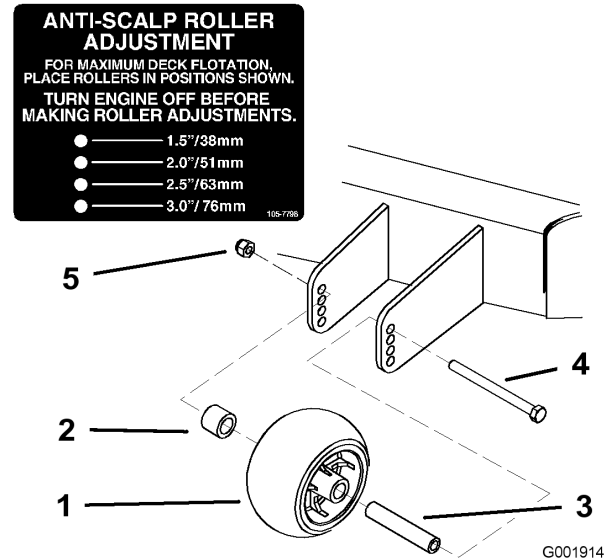
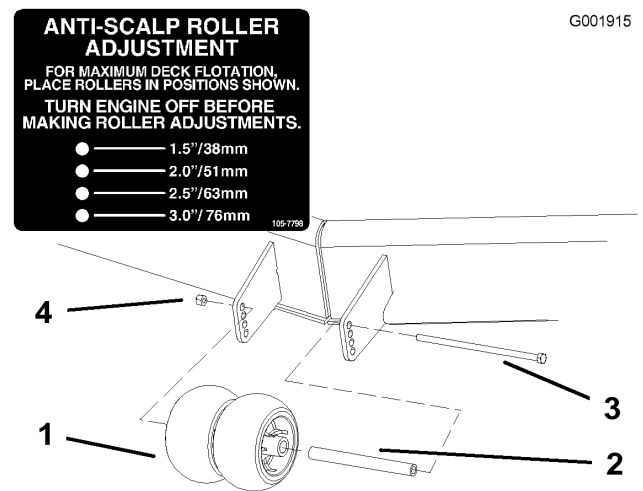

Figure 20
Figure 21
3. After adjusting the height-of-cut, adjust the rollers by removing the flange nut, bushing, spacer, and bolt (Figure 20 , Figure 21 and Figure 50).
Note: The two middle rollers will not have a spacer (Figure 21).
5. Install the flange nut bushing, spacer, and bolt. Torque to 40-45 ft-lb (54-61 N•m) (Figure 20 , Figure 21 and Figure 50).